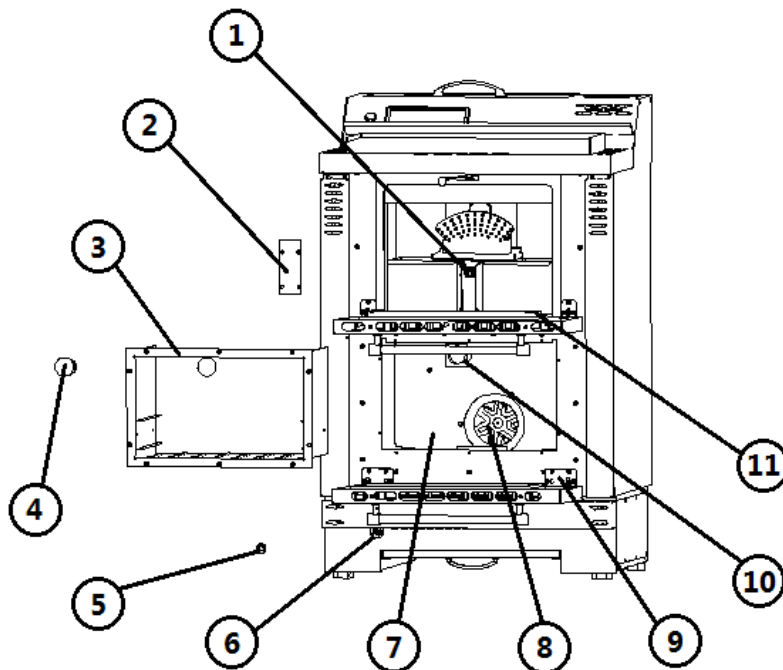

Fig. 35 - Front view
LEGEND	Fig. 35 page 33
- Loosen the 4 screws on the spark plug cover (see **Fig. 35 page 33**).